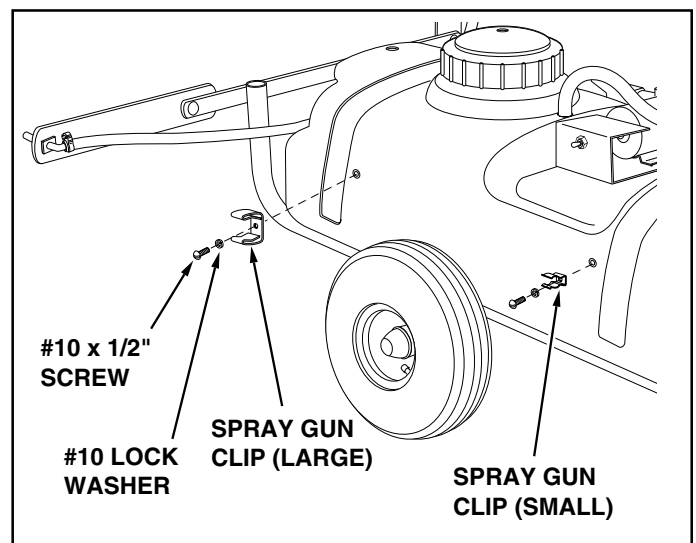

FIGURE 7
11. Assemble the large and small spray gun clips to the side of the tank using two #10 x 1/2" screws and #10 lock washers. See figure 7.